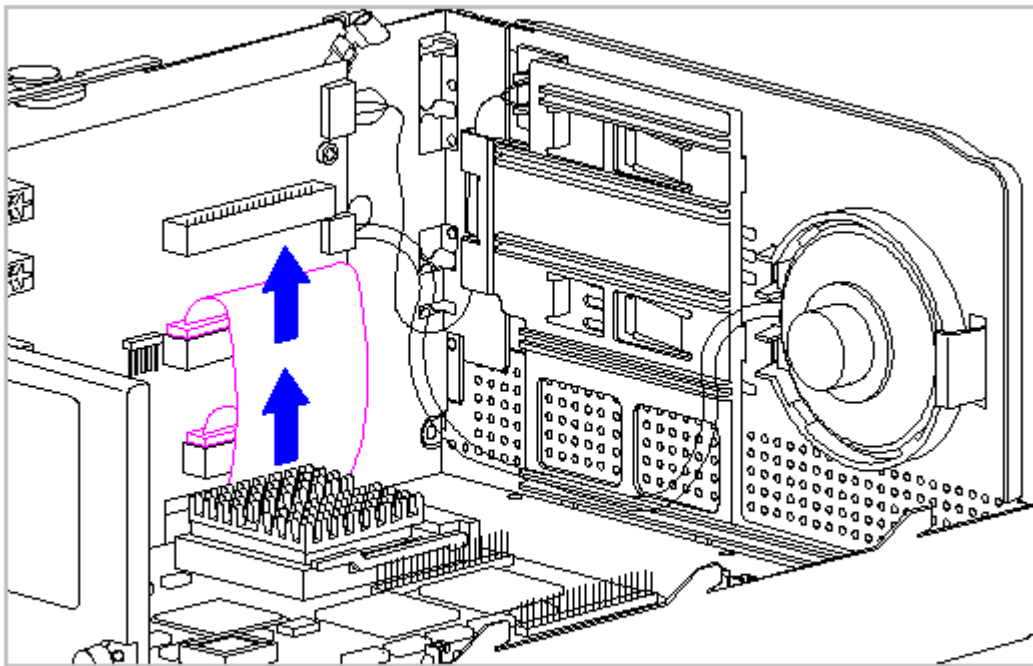

Figure 5-53. Disconnecting the Drive Cables from the Backplane Board
8. Disconnect the drive cables from the front side of the backplane board (Figure 5-53).